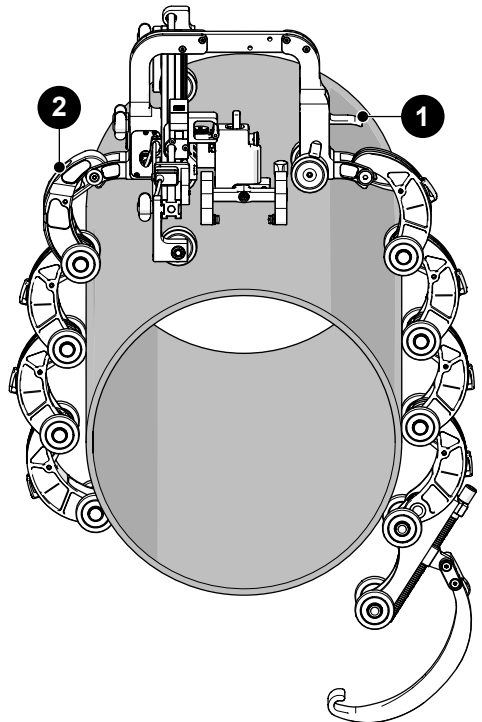

Fig. 89 - Place on pipe
5. Drape the configured assembly around the pipe/tube to be inspected (Fig. 89).